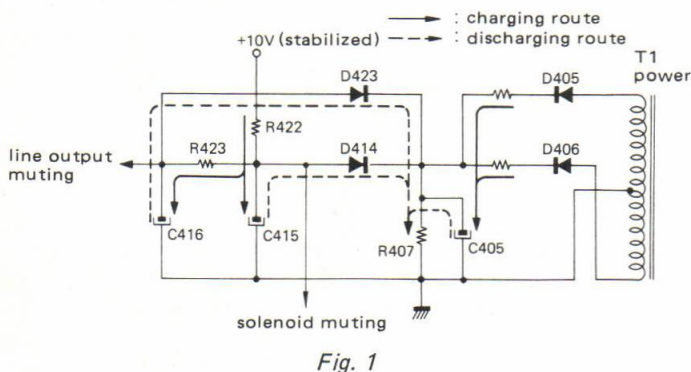

Fig. 1
Figure 1 shows the circuit to mute the line output and solenoid when the power switch is turned on, until the power supply voltage (+10 V) gets sufficiently stabilized.
1. CHARGING/DISCHARGING CIRCUIT (See Fig. 1)